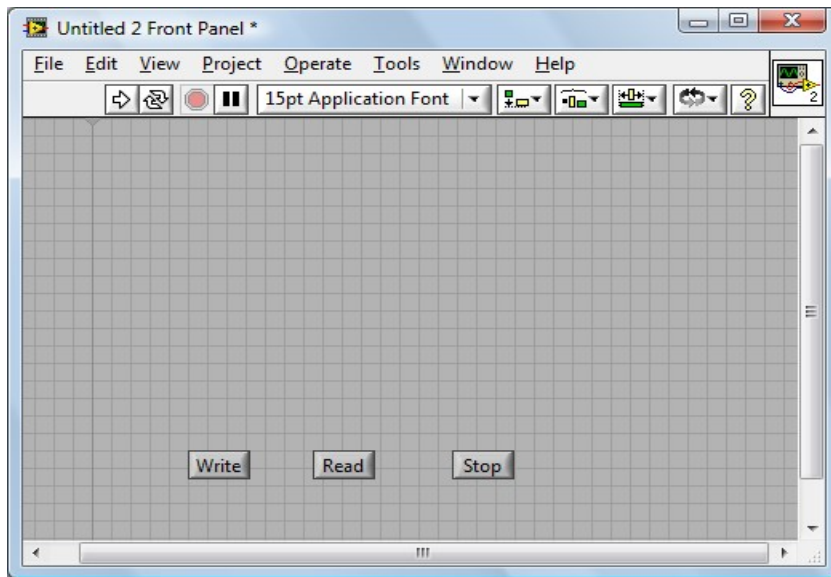

Figure 4-3-2
2. Right-click the **Front Panel** to choose **Controls>>Modern>>Boolean>>OK Button**; add three buttons and respectively define them as **Write**, **Read** and **Stop**. See figure 4-3-2.